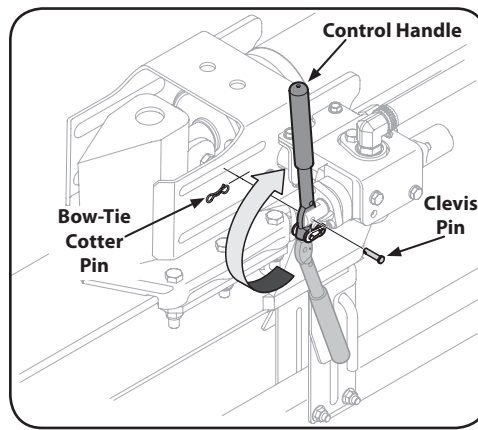

Figure 3-8
- Remove the clevis pin and bow-tie cotter pin from the control handle. See Figure 3-8.
- Rotate the control handle into the operating position and secure with the clevis pin and bow-tie cotter pin removed in Step 23. See Figure 3-8.